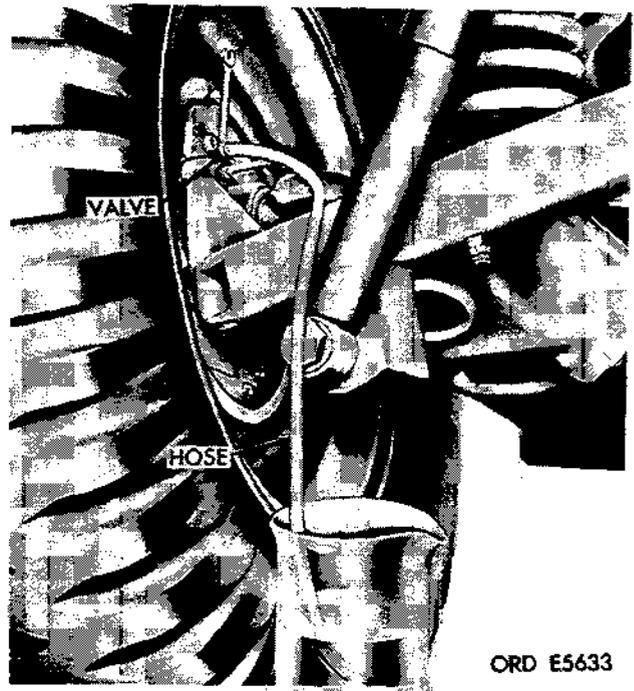

Figure 2-369. Attach bleeder hose.
- (2) Clean bleeder screw. Attach a bleeder hose to the screw and submerge lower end of hose in hydraulic fluid in a transparent bottle (fig. 2-369).